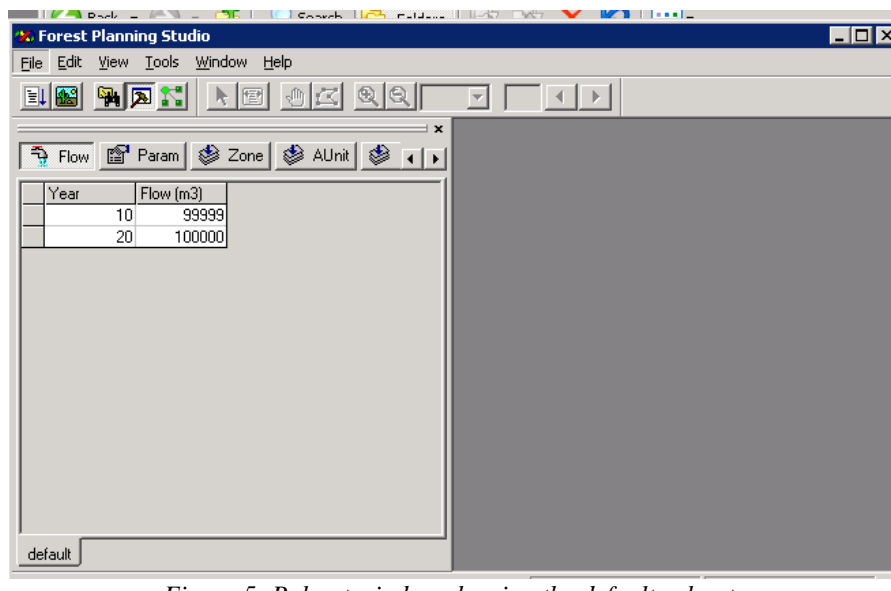

Figure 5: Ruleset window showing the default ruleset.
2.1.1. Open the *Ruleset* window. The *Ruleset* window should appear (Figure 5).